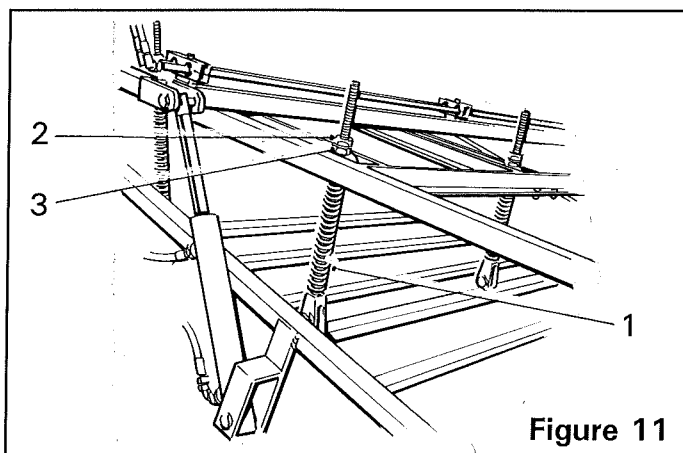

Figure 11
The scrubber web, fitted above the 2nd stage web, provides yet another facility for soil separation. The scrubbing web is spring loaded to ensure sufficient pressure to break up the clods etc. Adjustment is provided to vary the pressure applied by the springs (*item 1, figure 11*). To adjust the pressure, loosen the locknuts (*item 2, figure 11*) and turn the adjusting nuts (*item 3, figure 11*).